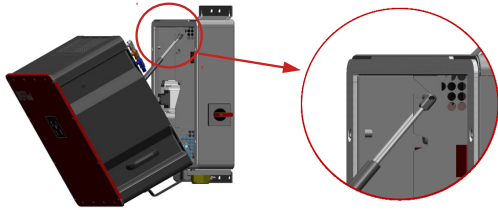

Fig. 32: Hooking the hydraulic rod in the recess of the ConnectionBox when mounted vertically
3. One person should hold the PowerUnit in place while the 2nd person should hook the hydraulic rod into the slot in the ConnectionBox as seen in figure 32.